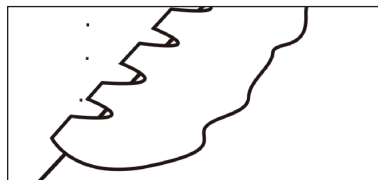

Figure 11
4. Visually check the burner flames to make sure your griddle is working properly (Figure 11).